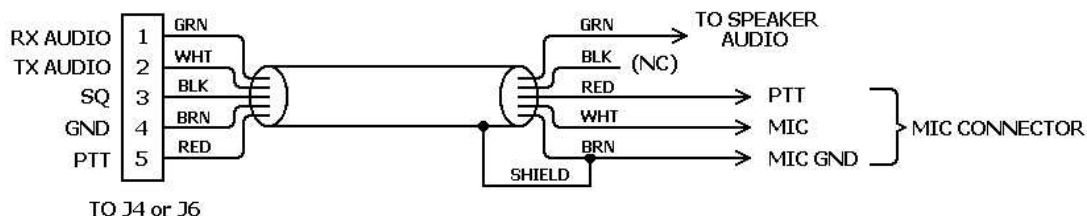

Figure 2-2 Radio-to-PK-232 Connections
- o Verify that your radio and PK-232 are connected as shown in Table 1-1 earlier in this manual and Figure 2-2 below.
1st Connect your PK-232 and FM radio as shown in Figure 2-2. BE SURE THAT THE FIVE-PIN CONNECTORS EXIT **DOWNWARD** FROM J4 AND J6.
1st Connect your PK-232 and SSB radio as shown in Figure 2-2.